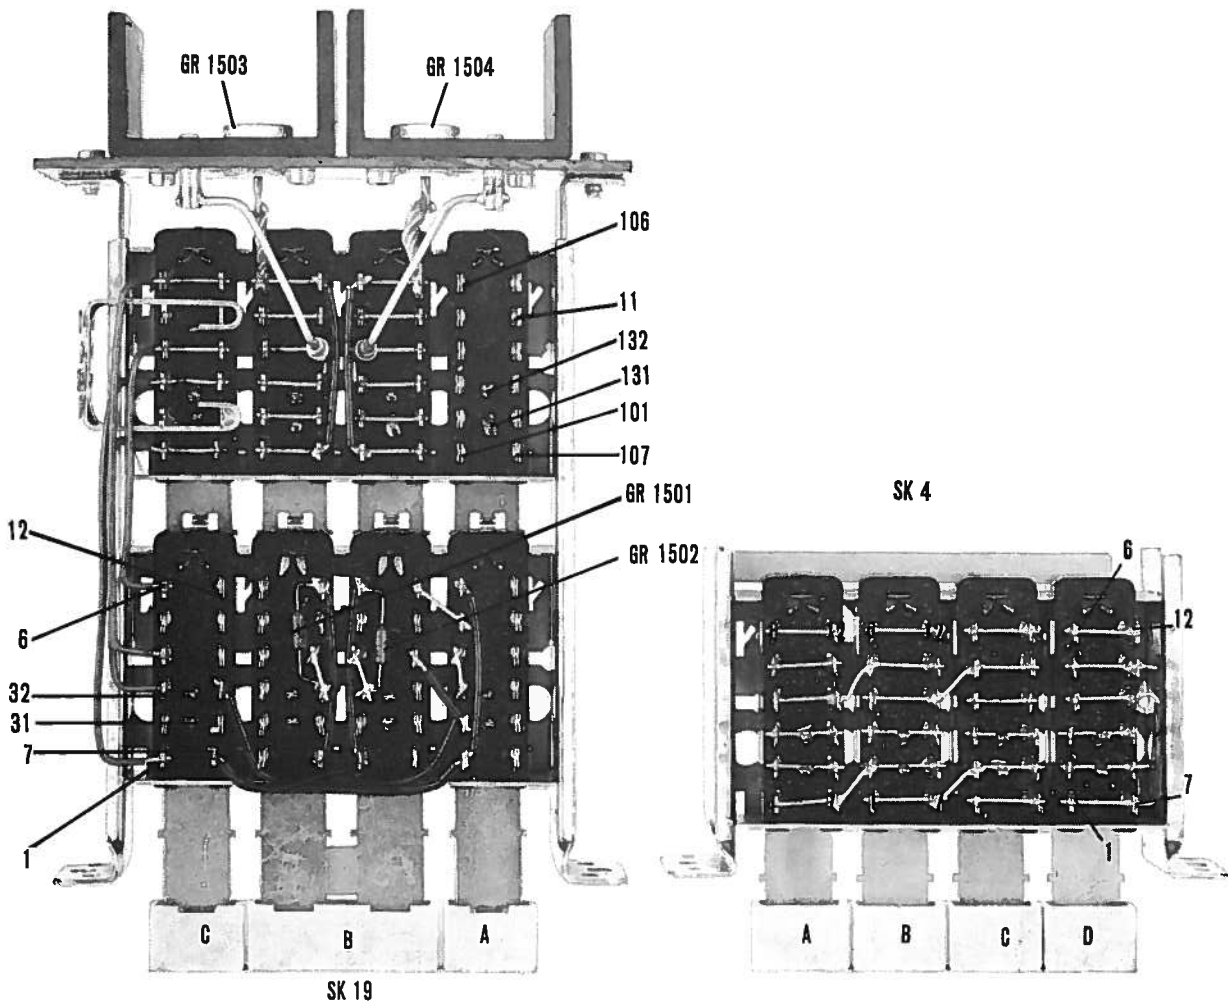

Fig. 77. Push-button unit U15 and SK4, taken off
2. Push-button units SK4 (Fig. 77)
3. Push-button unit SK19 (Fig. 77)